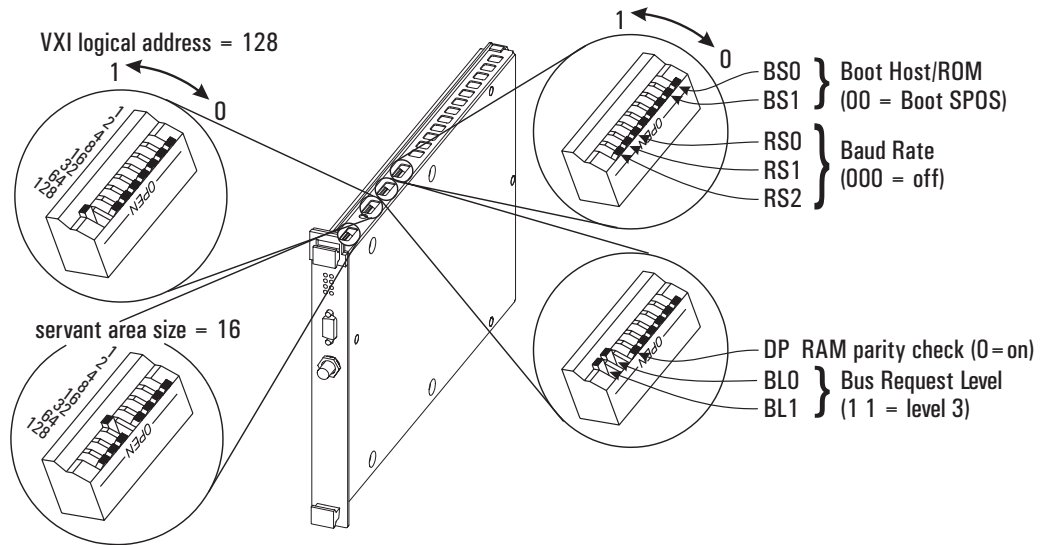
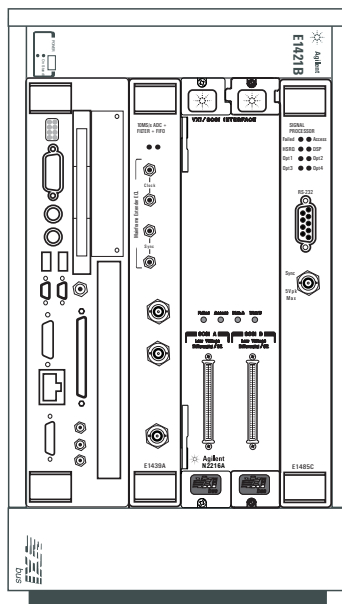

Figure 3 E1485C Settings
Figure 4 Wideband Recorder Hardware
- 2 Install the controller module into the mainframe's slot 0. See Figure 4 on page 12.
- 5 Install the ADC module into the mainframe to the right of the controller module. See Figure 4 on page 12.
- 7** Install the data disk into the VXI mainframe to the right of the ADC module. See Figure 4 on page 12.
- a** Set the VXI logical address (LA) to 128.
- c** Set the other switches as shown in Figure 3.